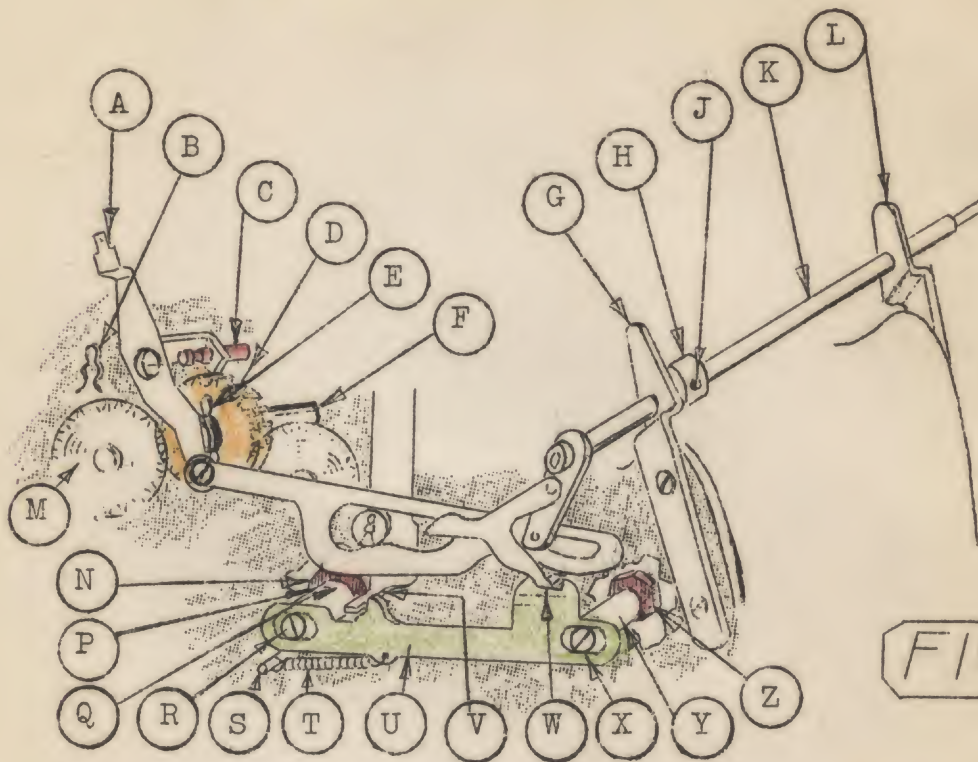

FIG. 13
- (12) Insert shaft (K) through bracket (G) and collar (H). Install lever (A) part way on post (C), as shown. Install idler gear (D) on post (F). Align the dot on gear (D) with the dot on gear (M) and install retaining ring (E). Latch lug (V) on (U) and complete the installation of shaft (K) through bracket (L), and lever (A) on post (C). Install retaining clip (B) on post (C). Allow slight end play in shaft (K) and tighten set screw (J) securely.
- (13) To install link (E) insert end (J) under guide (D), swing end (J) upward as indicated by arrow (F), and install (E) on stud (G). Lift click (H) upward and move link (E) inward. Drop click (H) into position. Loosen set screw (J) and slightly withdraw shaft (K). (Figure 13, Plate 44). Position arm (C) on shaft (M). Position the division lever in neutral and insert taper pin (A) in hole (B). Restore shaft (K) to its original position and tighten set screw (J). (Figure 13, Plate 44.)